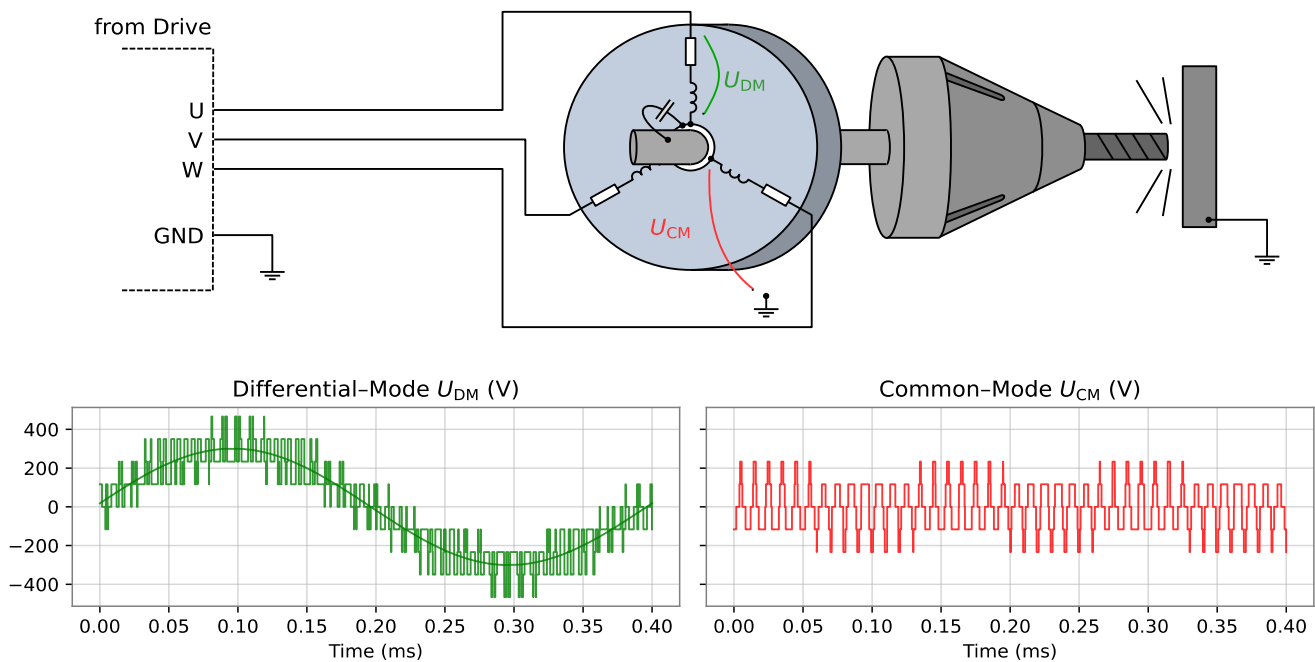

Figure 1: Schematic illustration of the electrical system and calculated time-series of the differential- and common-mode voltages for a typical application.
The applied voltage is separated into differential-mode (DM) and common-mode (CM) components. The differential-mode voltage is the potential difference across the motor windings, determining the current flow and driving the motor. The common-mode voltage is the sum of the phase voltages and does not contribute to the motor operation. Due to the PWM switching, the common-mode voltage fluctuates within the range of the DC-bus voltage at the PWM frequency. Figure 1 illustrates the electrical system and exemplifies the applied voltage for a 3-level PWM that operates at 50 kHz.